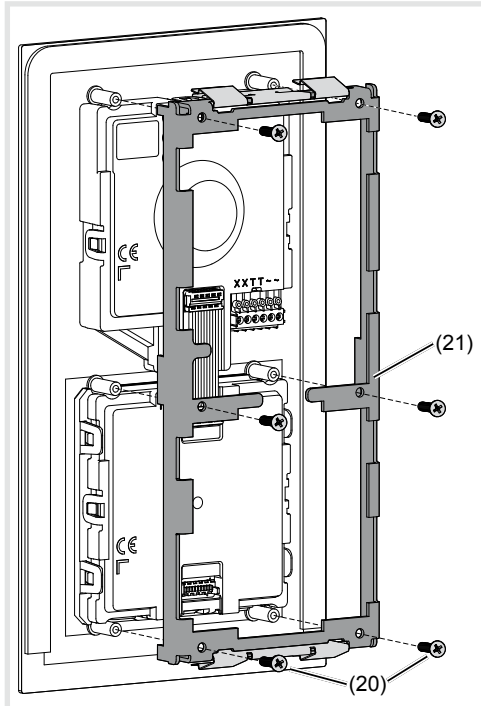

Figure 19: Dismantling module mounting
- Pull off connection terminal block (13) on the video insert.
- Loosen screws (20) of the module mounting at the back (21) using a screwdriver and remove the module mounting (Figure19).